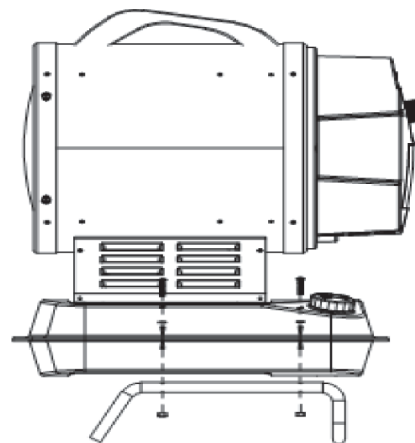

Fig. 2
1. Line up the holes on the stand with the holes on the fuel tank of the heater as shown in (see Fig.2).